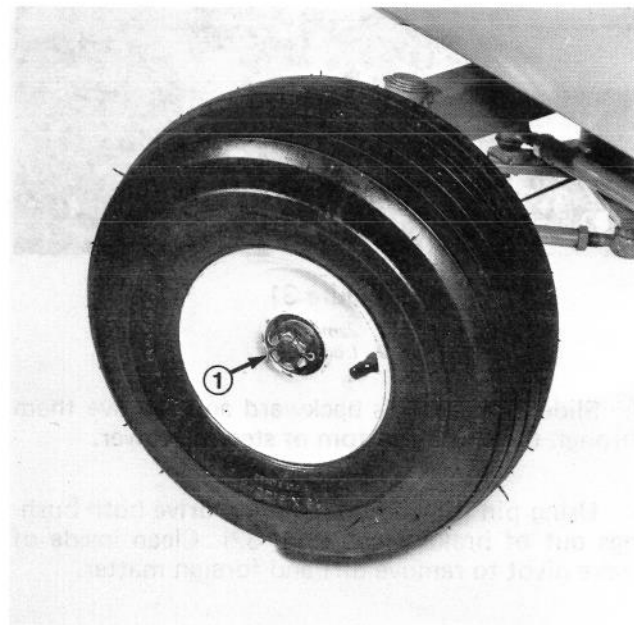

Figure 36
2. Remove dust cap from end of wheel spindle. Also remove cotter pin retaining slotted nut in place (Fig. 36).